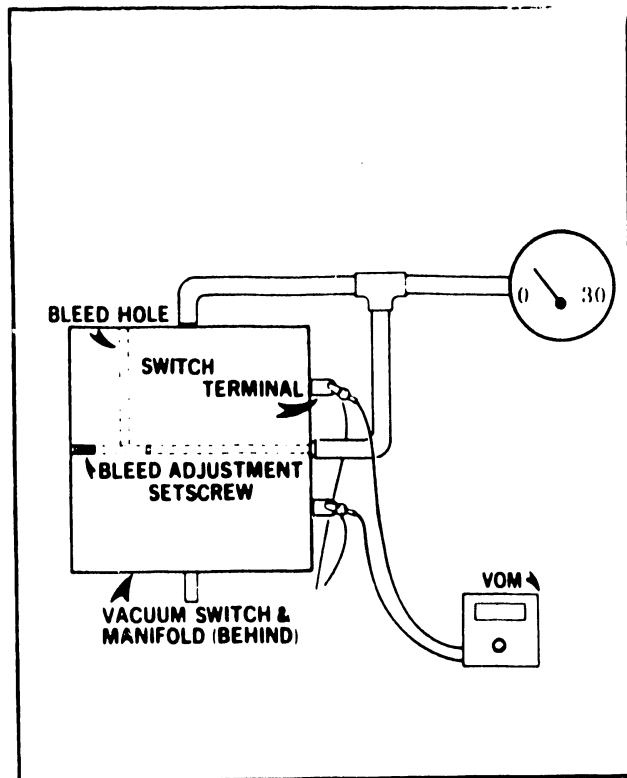

FIGURE 4-93 VACUUM SWITCH ADJUSTMENT
- a. Connect a vacuum meter and ohmmeter to the vacuum switch as shown in Figure 4-93. To do this, one end of the vacuum switch hose must be detached and connected to the vacuum meter "T" fitting. The hose on the opposite end of the T fitting is attached to the vacated hose fitting on the vacuum switch. Also, detach the green/white (+) wire from its terminal on the vacuum switch. Connect it to chassis ground prior to attaching the ohmmeter to the positive terminal on the vacuum switch.
- b. With machine on and a tape at load pont, cover the bleed hole (Figure 4-93). This gives maximum vacuum pressure, which should measure between 17 and 21 inches of water at sea level, or 15 to 19 inches of water at 4000 feet altitude.